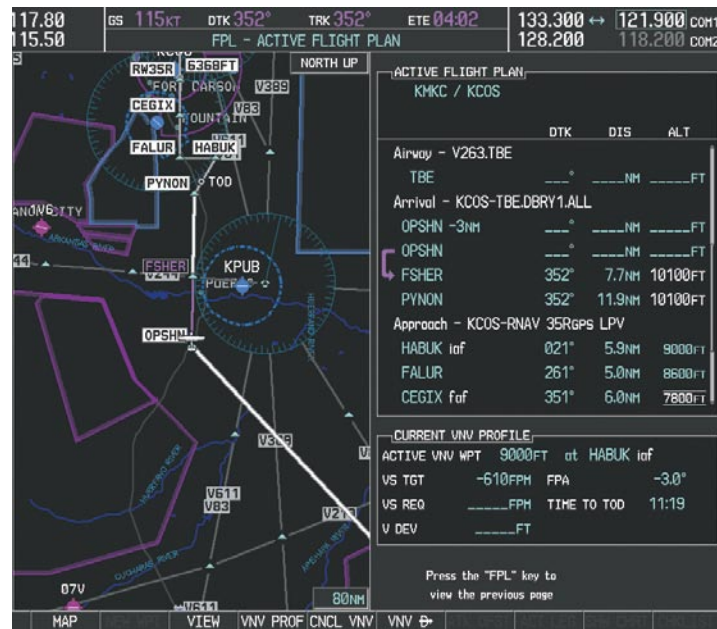

Figure 5-133 Tracking the OPSHN to FSHER Leg
- 19) After passing OPSHN, the next leg of the arrival turns magenta as shown in Figure 5-133. The magenta arrow in the flight plan list now indicates the OPSHN to FSHER leg of the arrival procedure is now active.